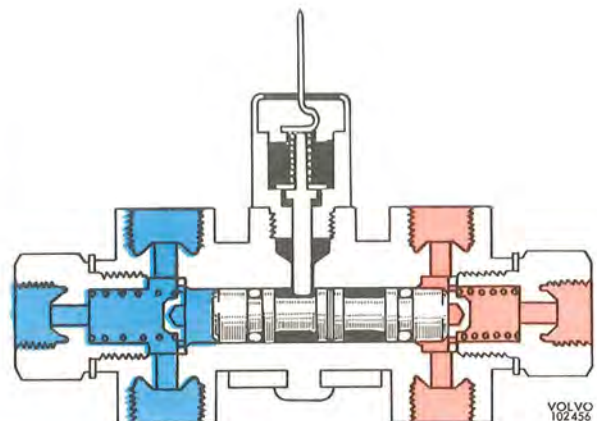

Fig. 5-40. Warning position
It is only when the pressure in the secondary circuit first exceeds that in the primary circuit by about 10 kg/cm² (142 lb/sq.in.) that the pistons are pushed so far to the right that the guide pin (4) can be pressed downwards. When this happens, the switch washer (2) reaches the housing (3) and current is cut in (Fig. 5-40). The guide pin is prevented from returning to its normal position until the fault has been rectified and the warning switch (3) removed.